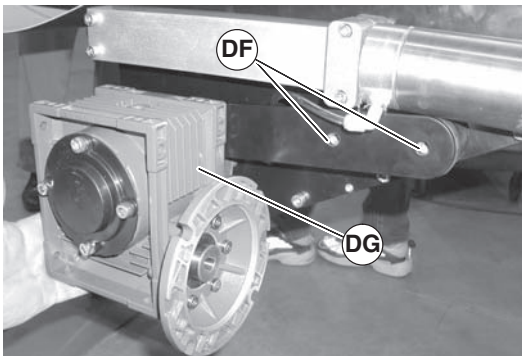
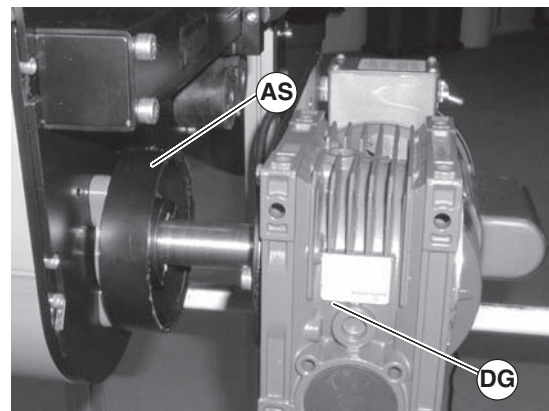

Figure 105
Figure 109
2. Remove screws (Figure 105, item DF) and remove gearmotor (DG) (Gearhead shown with motor removed for clarity, motor can remain attached to gearhead).
9. Reinstall spacer ring (Figure 109, item AS) and gearmotor (DG). Tighten screws (Figure 105, item DF) to 150 in-lbs (17 N-m).